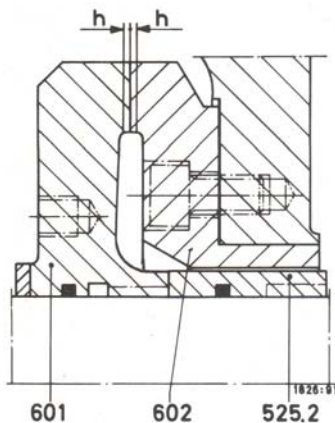

Figure 32 – Remachining the balance device
If the balance disc (601) touches the balance counter disc (602) remachine the faces on a lathe with arbours, this ensures the contact faces are then sufficiently true in relation to the bores. (Max. remachining $2h = 2\text{ mm}$, see fig. 32). Individual grooves can be allowed to remain.